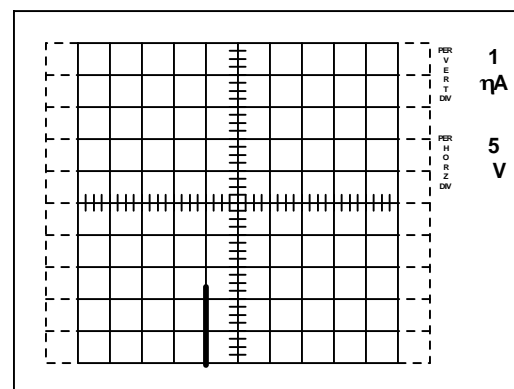

Figure 5. Gate-source leakage current at +20V
9. Connect the device using the LEFT/RIGHT switch. Increase the collector supply voltage using the VARIABLE COLLECTOR SUPPLY control, but do not exceed 20V, the maximum allowable gate voltage. It may be necessary to adjust the vertical sensitivity. Read the leakage current from the display (see Figure 5). In many cases, the leakage current will be in the nanoamp range, in which case the trace will be dominated by currents which flow through the device capacitance as a result of minute fluctuations in the collector supply voltage.